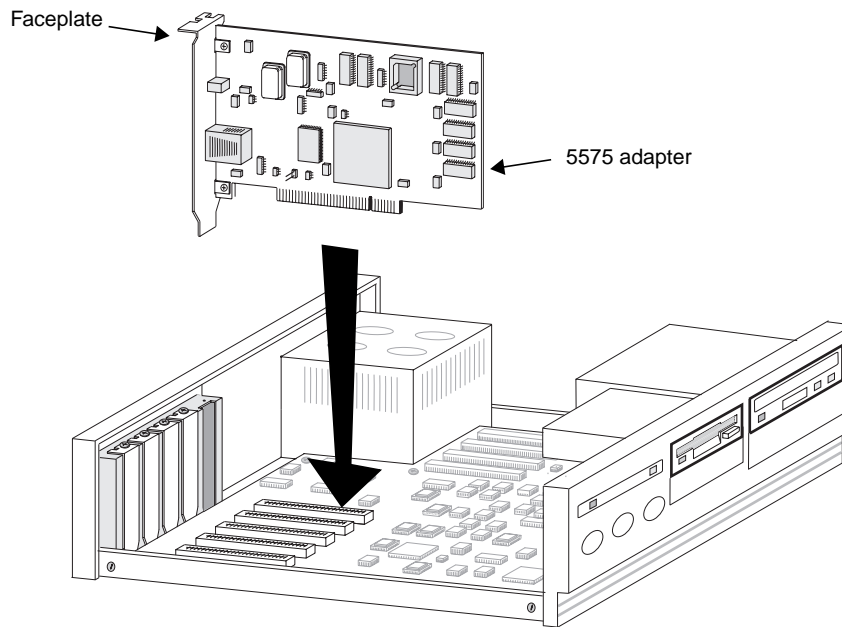

Figure 2-1. Inserting the Adapter
5. Insert the adapter in the PCI slot as shown in Figure 2-1.